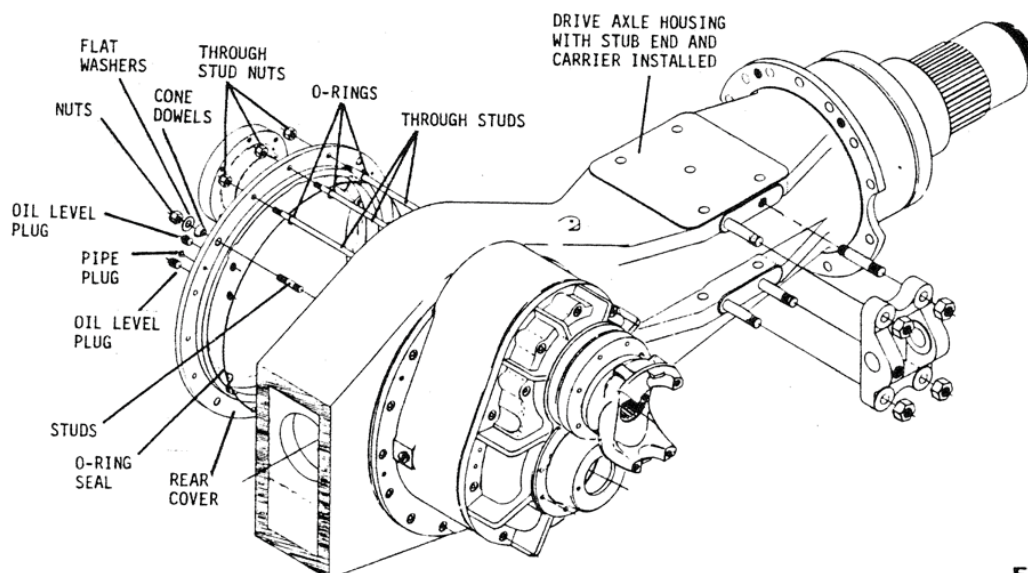

FIGURE 12
A. Rear Cover and Drive Axle Housing Preparation - Figure 12.
B. Rear Cover Installation - Figure 12.